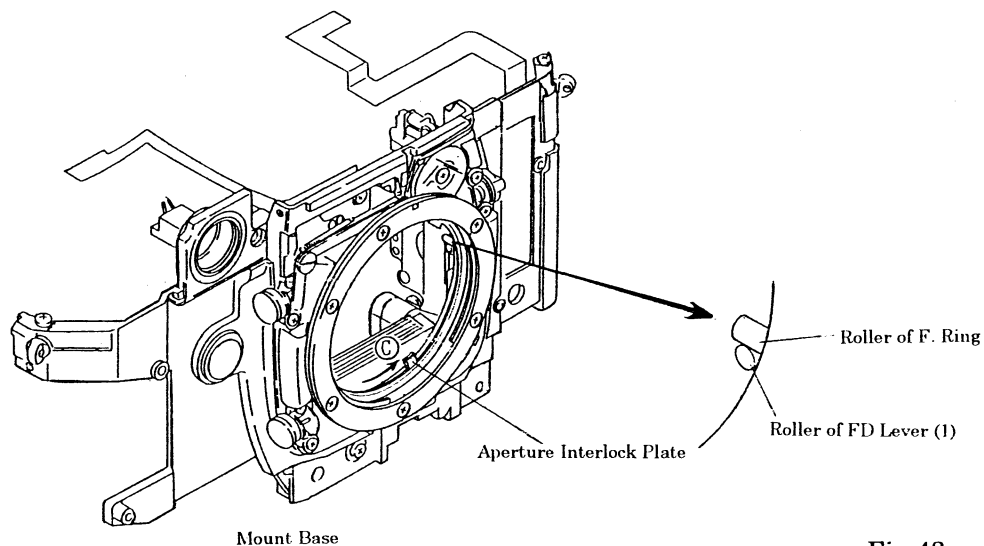

Fig.48
(See Fig. 48)
- 2) Move the Aperture Interlock Plate in the direction of the arrow ③ (to the aperture open position) and while keeping it there, install the F. Base Plate Ass'y (1AFC3300) on the Mount Base.
At this point, make certain that the Roller of the FD Lever (1) and the Roller of the F. Ring are installed in the position as shown in Fig. 48.